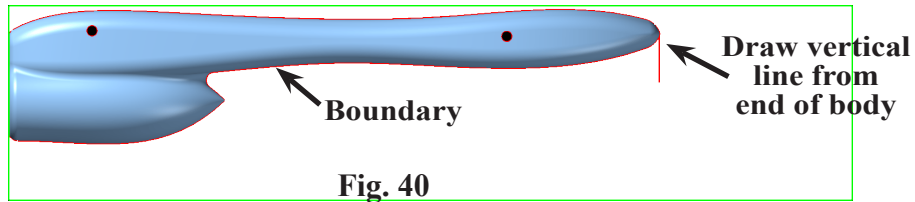

Fig. 40
Step 6. Check **Arc Fit**, **Fig. 39** and click OK , **Fig. 40**.
Step 8. Draw a **vertical line down from front end of the solid body**, **Fig. 40**. Press **ENTER**. Click OK  in ribbon bar.